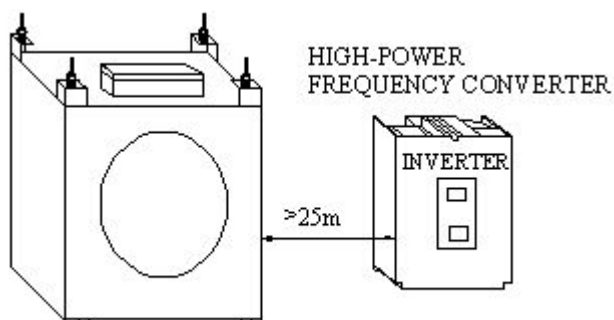

Figure 11.e
e. The location that the metal detector is installed is very sensitive to the electromagnetic interference. For example, in the workshop, there is air conditioner and a big power inverter is used (over 15KW) and it is within 25m. So it may cause the disoperation. So please install RFI filter to the main connecting wire. The nearer the install position to the AC motor driver the better it is. If you adjust the inverter's PWM wave carrying frequency, the interference will relatively decrease. Please see figure 11.e.